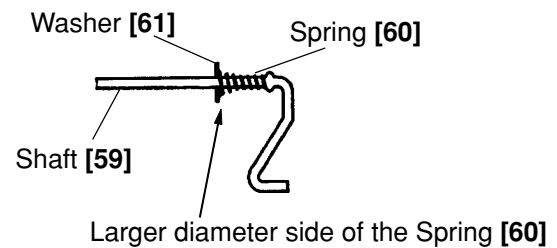

Fig.37
- Mount the Spring [60] and the Washer [61] to the Shaft [59] facing the larger winding diameter side of the Spring [60] to the Washer [61] (Fig. 37).